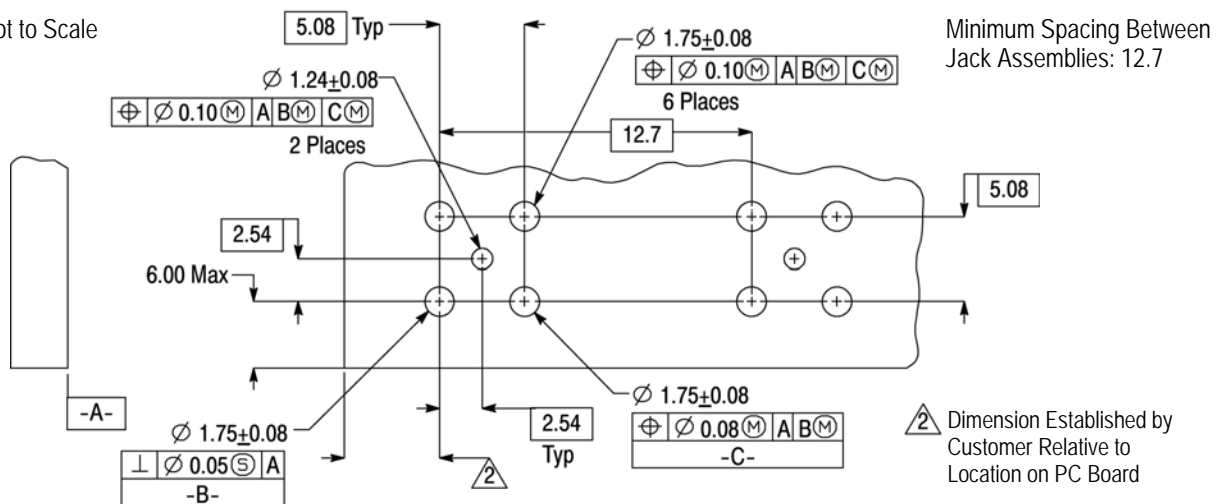

Figure 2
2. Design the pc board layout using the dimensions provided in Figure 2.
- Corrected arrow placement for dimension 12.7 in Figure 2